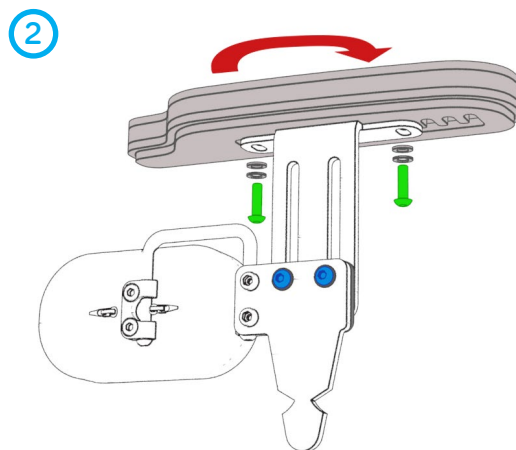

FIG 11
2) Unzip the arm support pad cover and remove arm support mount screws (green FIG 11) with washers, rotate the arm support so it is now forward facing and replace all fasteners and washers in the order in which they were removed. Set arm support to the desired position, fully re-tighten all fasteners and re-zip cover.